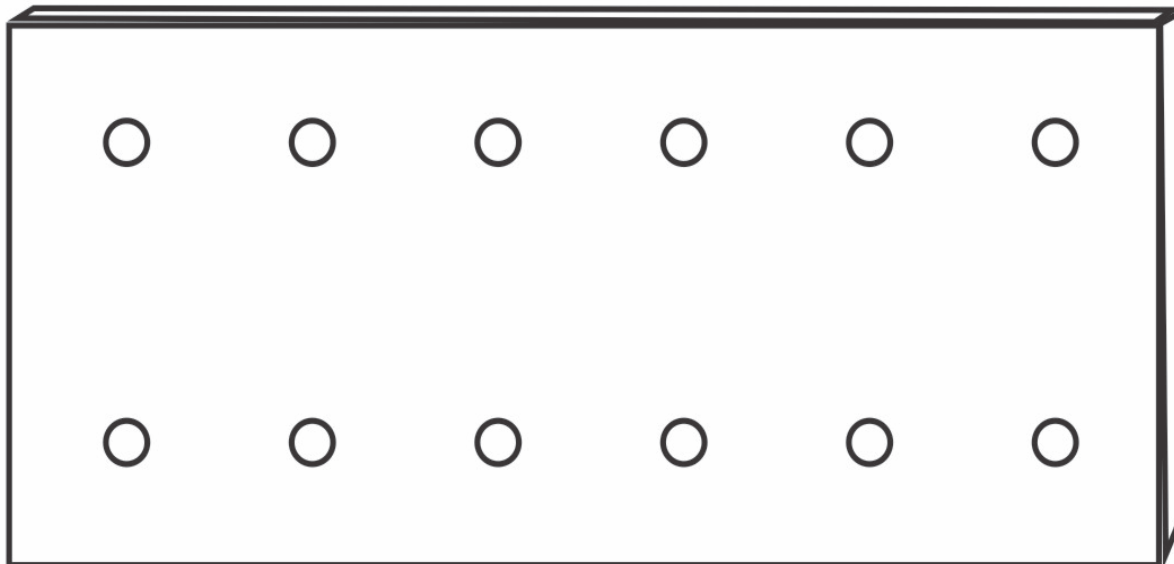

Fig. 9.6: Holes for fixing of sockets and switches on the top cover of the extension board.
We hope that now you understand the basic principle that determines the choice of various components of an extension board. Now you are ready to assemble an extension board. Follow the steps given below (refer to Figs. 9.6 and 9.7 to follow the steps correctly):
1. Take out the top cover of the wooden/plastic box for drilling holes in it to fix the sockets and switches (Fig. 9.6). Arrange all the components on the top cover of the box to decide their final position when ready. Then, with a pencil, mark the points shown in Fig.9.6 for holes. Use hand drill to drill holes of appropriate size (that is, size of the screws/nut-bolts to be used to fix sockets and switches) at these points. Fix the sockets and switches in their appropriate positions on the top of the box with screws. Take help of your Counsellor for this activity, if need be.